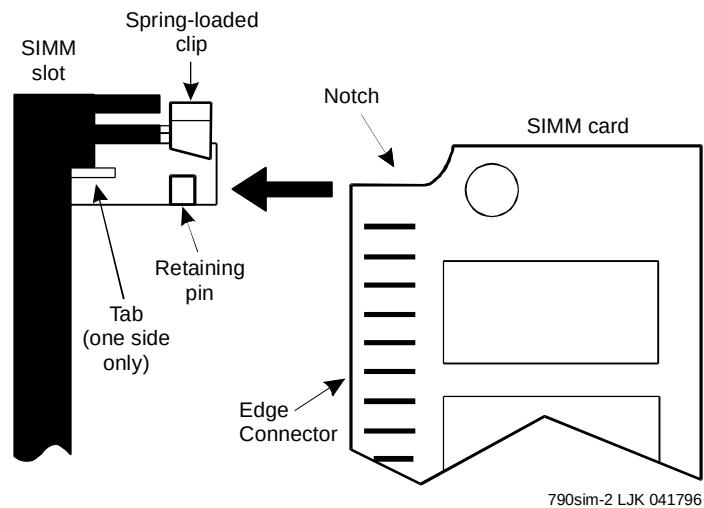

Figure 6-3. Align the SIMM with the SIMM Socket
3. Locate the Notch cutout area on one corner of the SIMM. See Figure 6-3. See WARNING.
(See Figure 6-3).